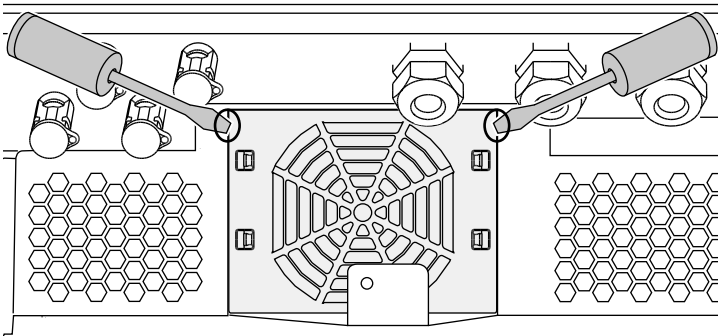

Fig. 57: Loosen fan grill
2. Dismantle the fan. To do this, place a screwdriver at the edge of the fan grill and apply a little pressure to the fan grill. ↗️ **Fig. 57**